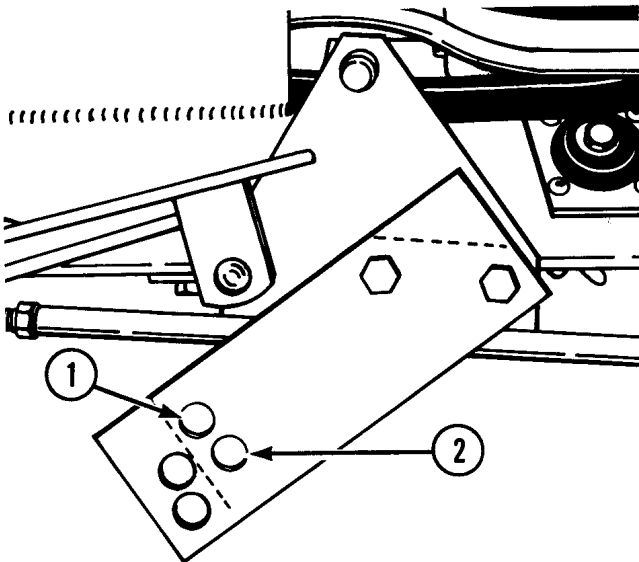

FIGURE 7 Adapter Plate (Early Production)
11. The rear of the blade lift arm fastens to the adapter plate. Use the washer and safety pin included. See Figure 7, 8 or 9 for the correct adapter plate and mounting hole.